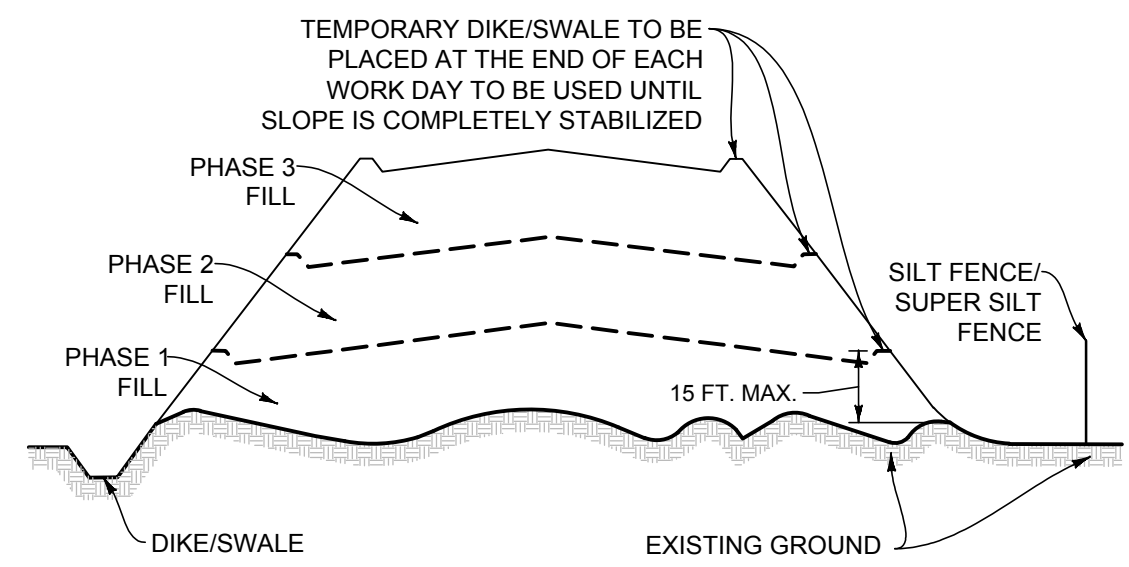

FIGURE B.2: INCREMENTAL STABILIZATION - FILL
4. CONSTRUCTION SEQUENCE EXAMPLE (REFER TO FIGURE B.2):